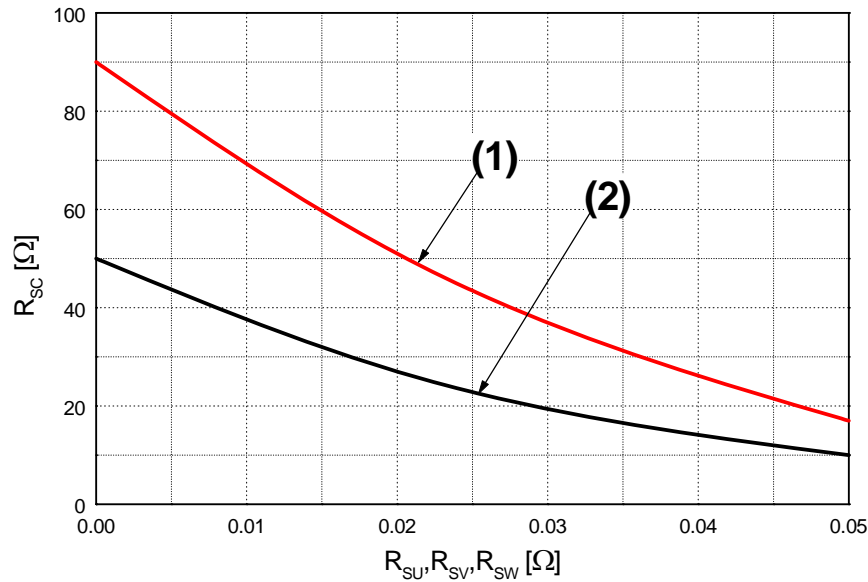

Figure 6. R_{sc} Variation by Change of Shunt Resistors (R_{su} , R_{sv} , R_{sw}) for Short-Circuit Protection
- Short-circuit protection is functioning only at the low-sides. It would be recommended that the value of the external sensing resistor (R_{SC}) should be selected around 50 Ω in order to make the SC trip-level of about 45A, at the shunt resistors (R_{SU}, R_{SV}, R_{SW}) of 0 Ω. For the detailed information about the relationship between the external sensing resistor (R_{SC}) and the shunt resistors (R_{SU}, R_{SV}, R_{SW}), please see Figure 6.